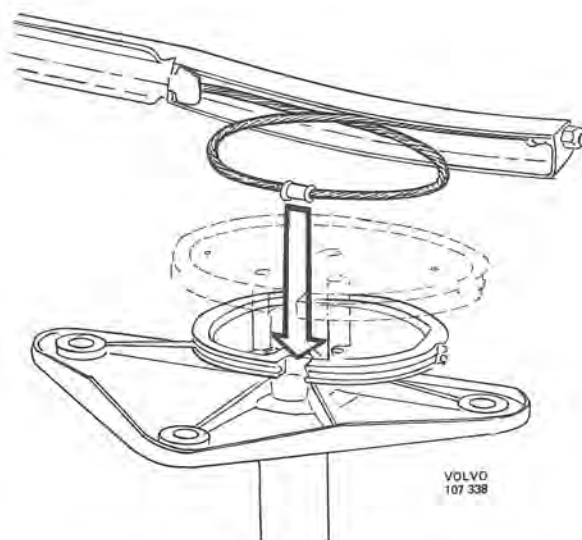

Fig. 3-100. Installing cable for parallel drive link, right-hand side
1. Place the cable's flange nipple in the small segment recess and thereafter prise the cable over the inner segment, see Fig. 3-100. Great care should be observed when doing this work so as not to score the segment or damage it in any other way, as this could lead to disturbance in operation. Tension the cable.